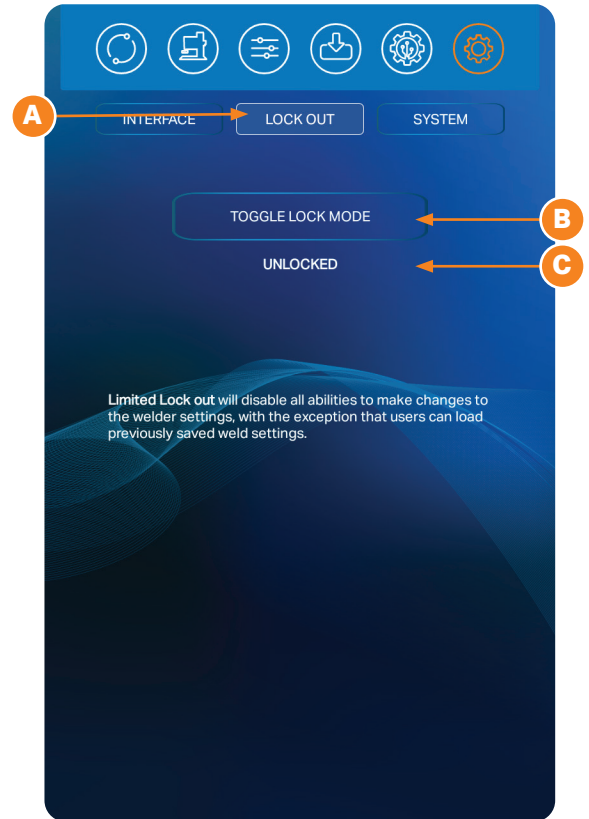

Figure 29.1. With the Pico you can prevent other operators from either making changes to welder settings.
With the Pico you can prevent other operators from making changes to welder settings. See Figure 29.1. To access these features, press the Lock Out Button (A).
- Press the Toggle Lock Mode Button (B). See Figure 29.1